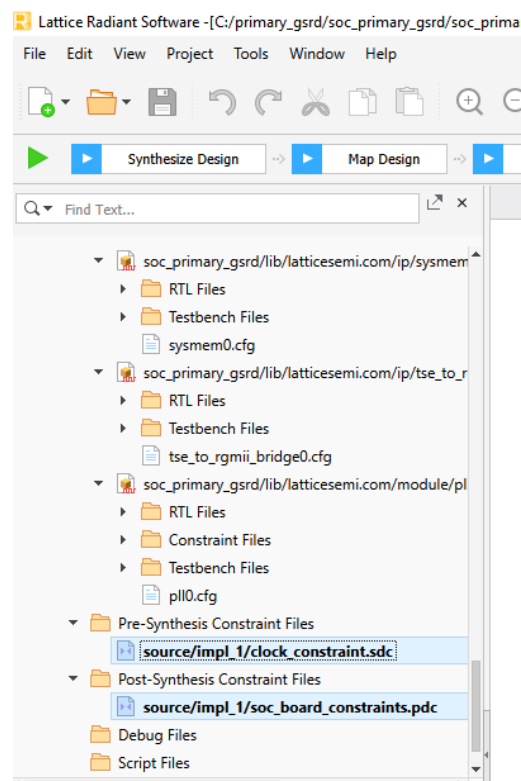

Figure 8.53. Pre and Post-Synthesis Constraint Files Added
8. After you add these constraint files, the Radiant file list is updated as shown in Figure 8.53.